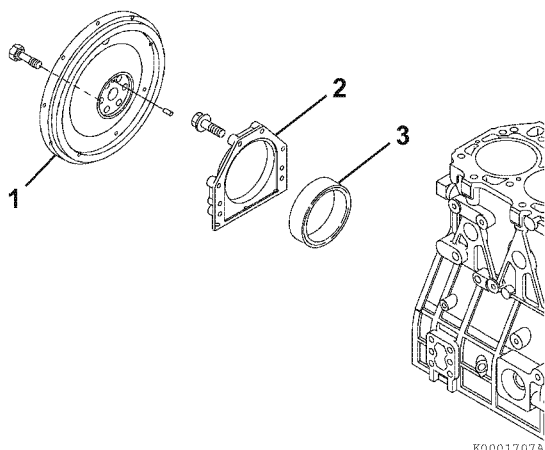

Figure 6-64
3. Remove the rear oil seal (**Figure 6-64, (3)**) from the seal housing (**Figure 6-64, (2)**).
4. Apply a continuous bead of ThreeBond Liquid Gasket No. 1207F, YANMAR Part No. 977770-1207F to the outside diameter of a new oil seal (**Figure 6-64, (2)**), and install in the housing. Apply lithium grease to the lip of the seal.